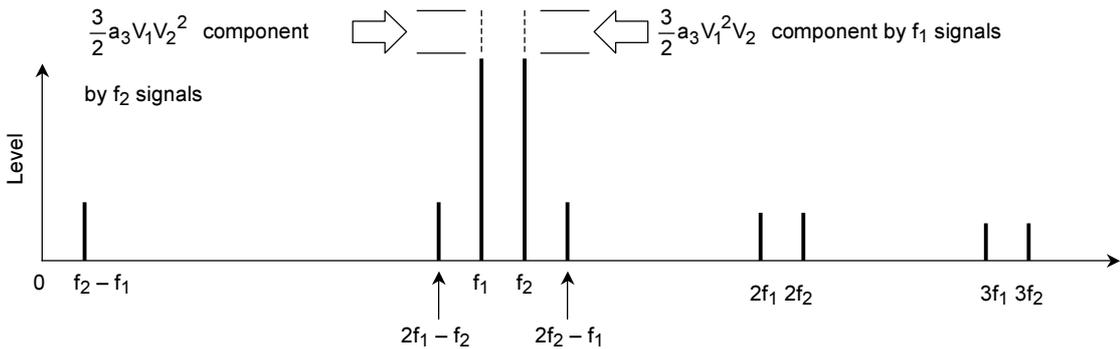

Figure 5.1
In equation (3), represents the inter-modulation term and represents the cross modulation. Figure 5.1 shows a spectrum diagram equation (3) figure.